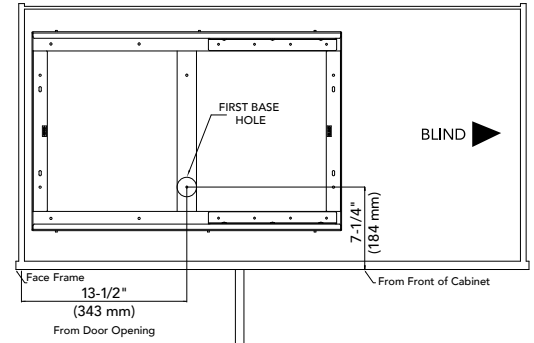

Fig. 2
With the Base Unit (A) square to the cabinet opening; pre-drill and mount to the cabinet floor with (10) 5/32" x 18 mm Wood Screws (I) (See Fig. 2).